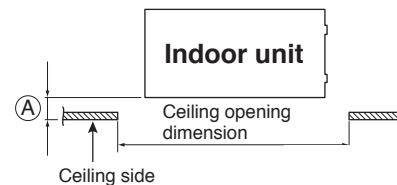

Fig. 6-11
- Ⓐ must be within the range of 1/2" (13mm) to 23/32" (18mm). (Fig. 6-11)
- (1) Check that the ceiling hole is 23-5/8" (600 mm) × 23-5/8" (600 mm) (Fig. 6-11)
- (2) Confirm that the position of the indoor unit and the ceiling as shown in the diagram. If the positions of the ceiling surface and unit do not match, air leakage, water leakage, flap operation failure, or other problems may occur. (Fig. 6-11)